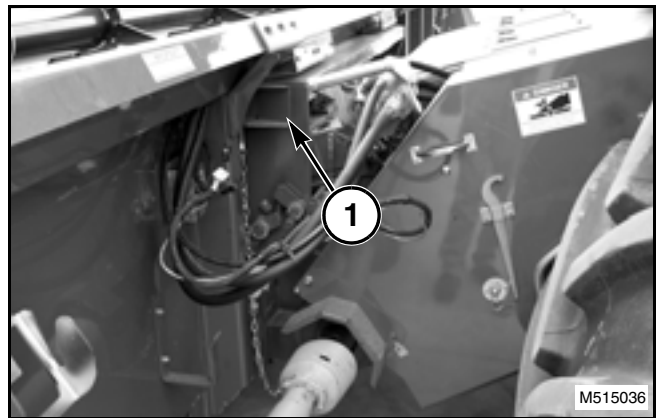

FIG. 52
FIG. 52: Align the left-hand front corner of the feeder housing with the left-hand guide flange (1) in the header opening. Drive the machine squarely into the header.